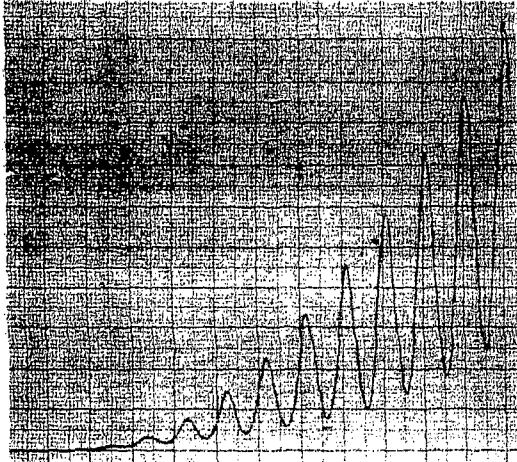

Fig. 3 Recorder image of the Franck-Hertz curve
- h) You can now record a Franck-Hertz curve (Fig. 3) by slowly and steadily raising the accelerating voltage U_B , and determine the exact positions of the maxima and minima with the digital voltmeter.